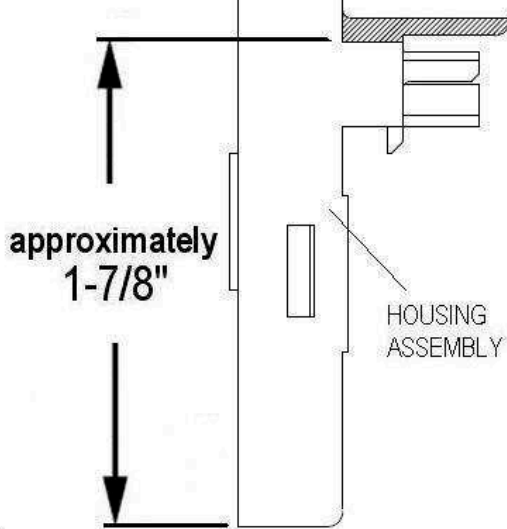

Fig. 2 Attach housing to strain relief.
2. Hold the clear strain relief cover with bottom facing upward as shown in **Figure 2**.
3. Lay wire into locator slots, making sure the black wire is placed into locator slots marked BLK shown in **Figure 2**. Use the two wire locators and spreaders to help guide the wire into place. Press the cable sheath into the integral strain relief slot.
4. While holding the strain relief cover, position the housing's hinge posts into the hinge slots and press down until both lock into place as shown in **Figure 2**.